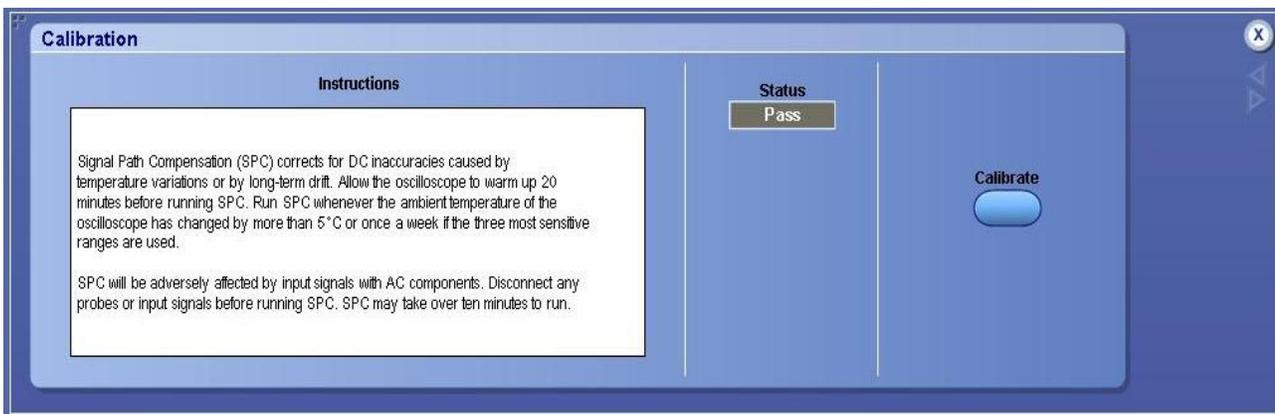

Figure 33. Signal Path Compensation
19. Adjust the horizontal Scale (Lower time/pt) so that the differences in the channel delays are clearly visible. Refer to Figure 33.